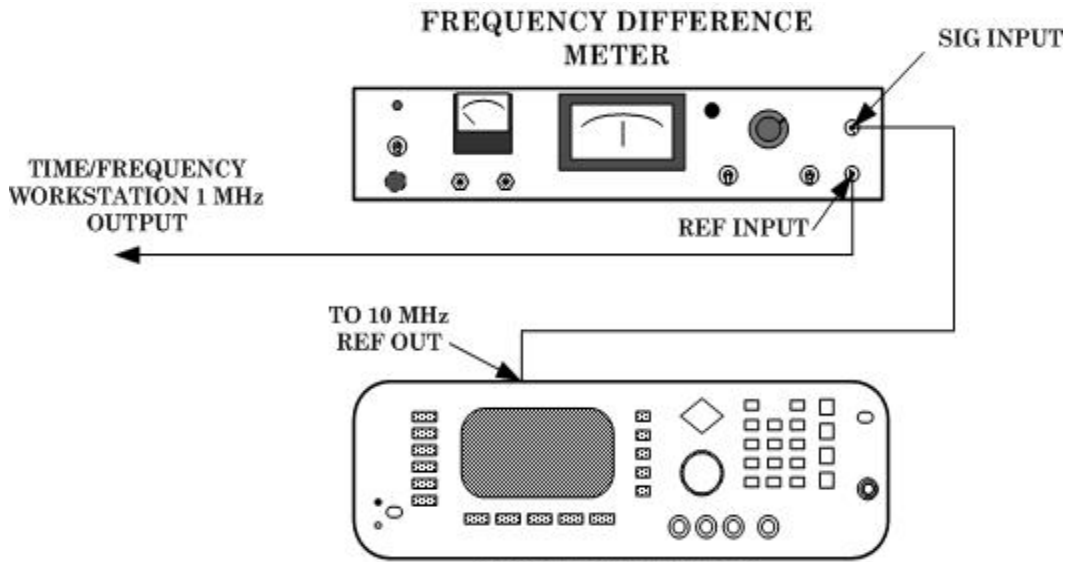

Figure 1. Time base verification connection.
- d. Connect equipment as shown in figure 1.